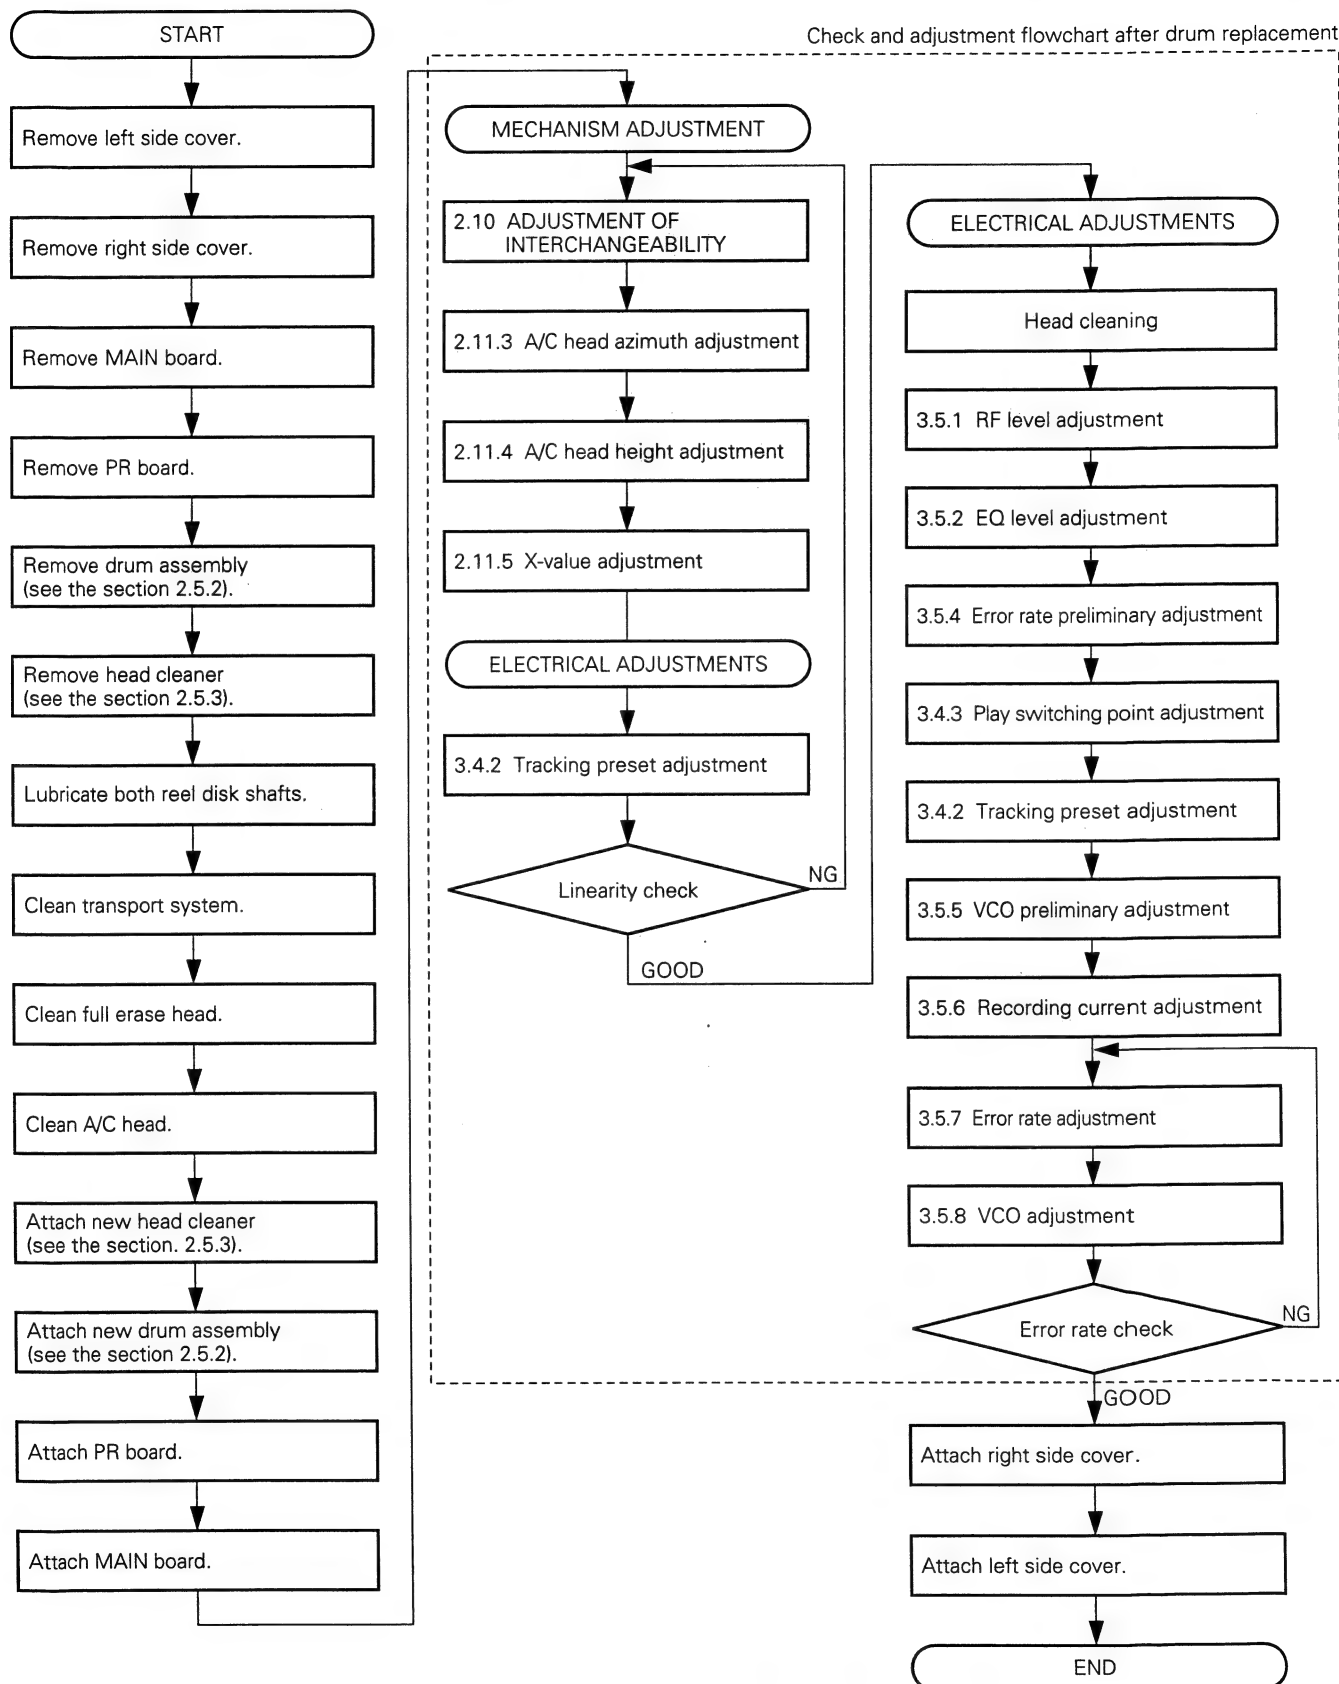

Fig. 2-5-1 500-Hour Periodical Maintenance Flowchart
Fig. 2-5-1 shows the procedure of the periodical maintenance operation to be performed after every 500 hours of operation.
- After replacing the drum assembly, be sure to perform the adjustments as shown in the flowchart (see Fig. 2-5-1).
3. Perform checks and adjustments as indicated in Fig. 2-5-1, " Check and Adjustments Flowchart After Drum Replacement".